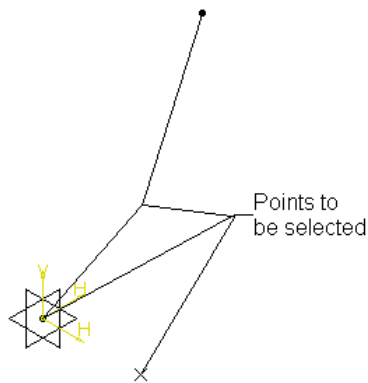

Figure 5-74 Points to be selected to create plane
4. Create a plane by selecting three points, as shown in Figure 5-74.